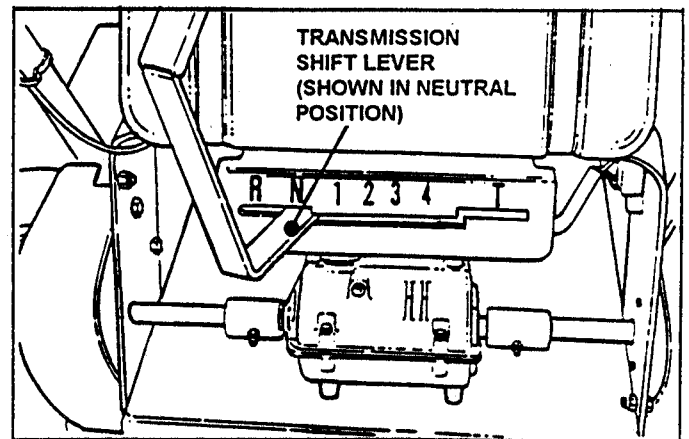

FIGURE 4
3. Place Transmission Shift Lever in **NEUTRAL(N)** position. See Figure 4.
3. Place Transmission Shift Lever in NEUTRAL(N) position. See Figure 4.